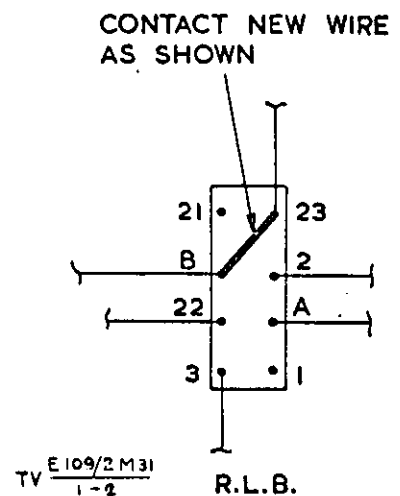

Fig 2 - Wiring detail
- On re-assembly of bracket assembly (FV 530576) replace the cable length between terminals RB 23 and RB b with a wire link as shown in Fig 2.